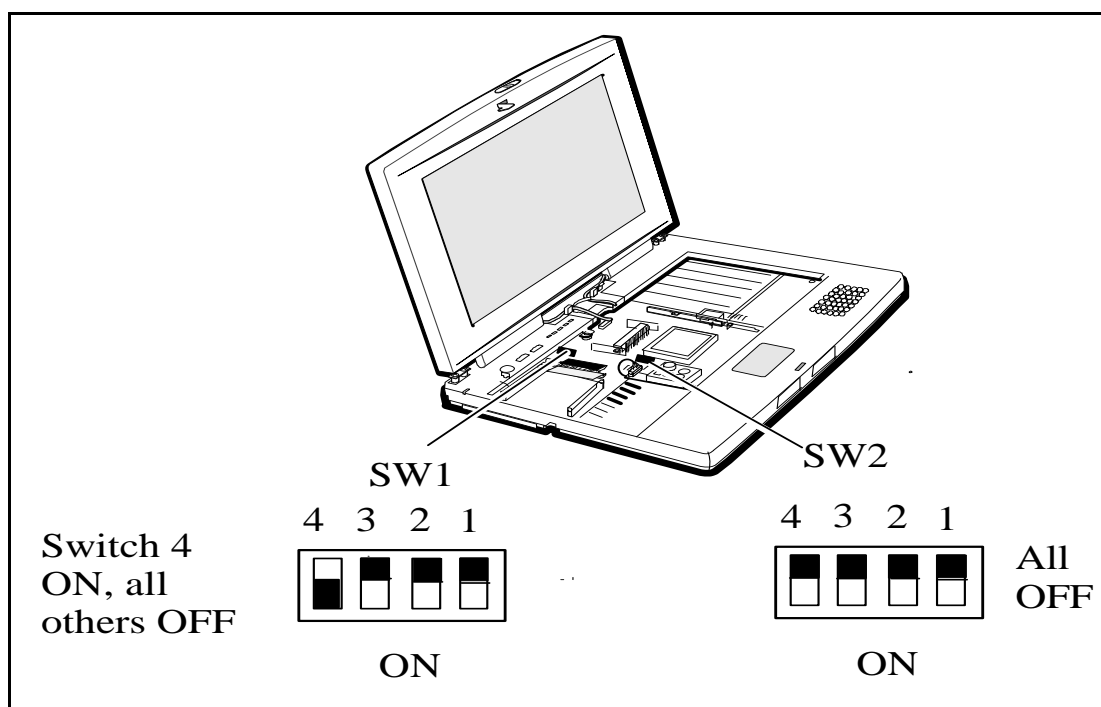

Figure 6-5 Switch Settings for Main Board
11. Inspect the two configuration DIP switches on the replacement board; ensure that the settings are as described in Figure 6-5.